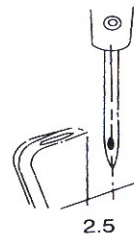

Fig. 18
6. Chain Looper and Needle Fig.18